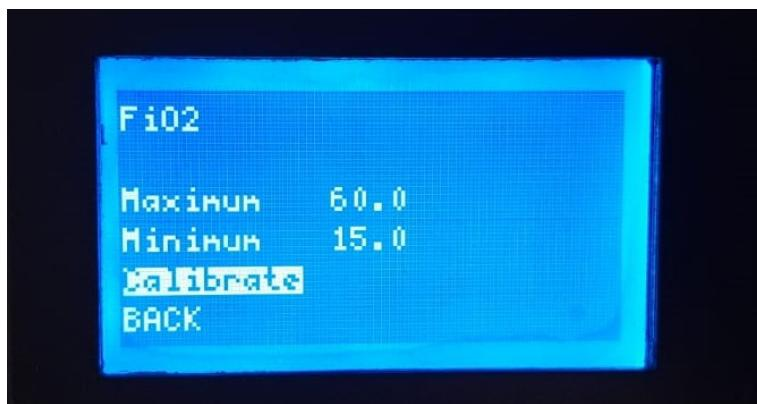

Figure 14: FiO2 setting menu.
3. The FiO2 setting menu is displayed as shown in Figure 14